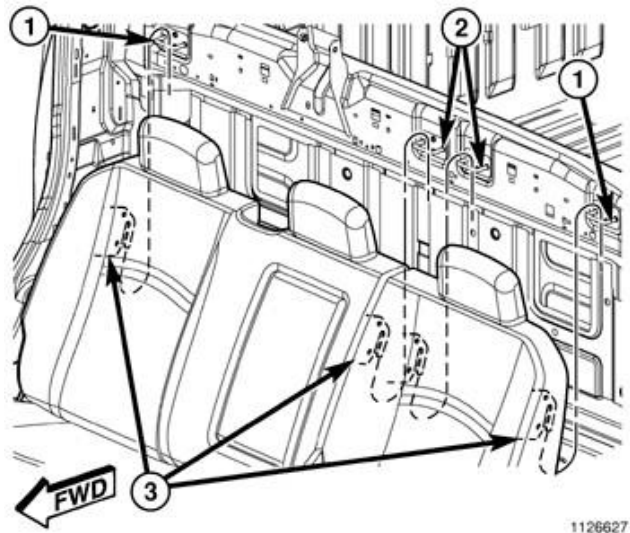

Figure 22 – Center Shoulder Belt
14. Lift the rear seat assemblies up and separate the seat hooks (3) from the brackets (1 and 2) (Figure 22).